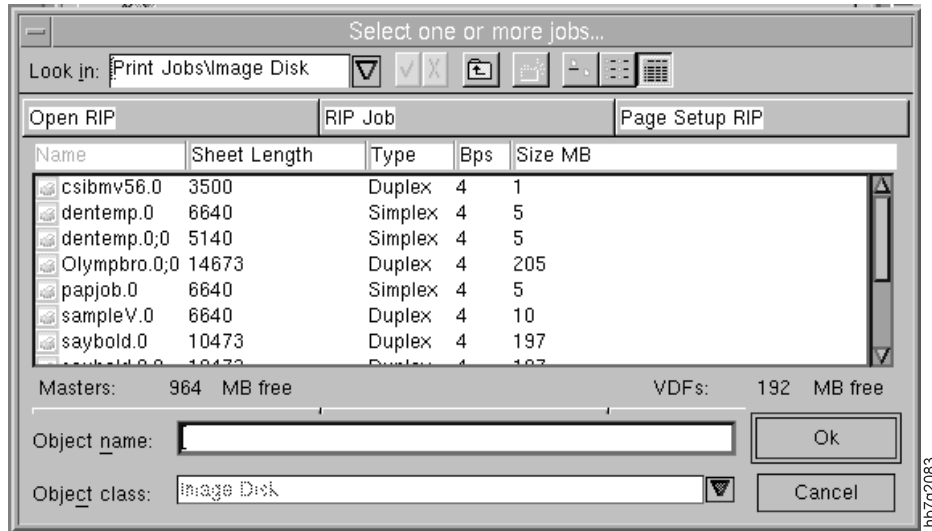

Figure 122. Select one job... Window
- 5 Click on the pushbutton to the right of the **Source** text box to display the **Select a job...** window, as shown in Figure 122 on page 191.